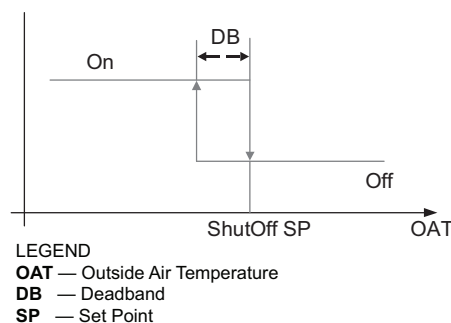

Fig. 79 — Hysteresis Settings
Hysteresis setting (DB) defaults to 2°F (–16.6°C). See Fig. 79.